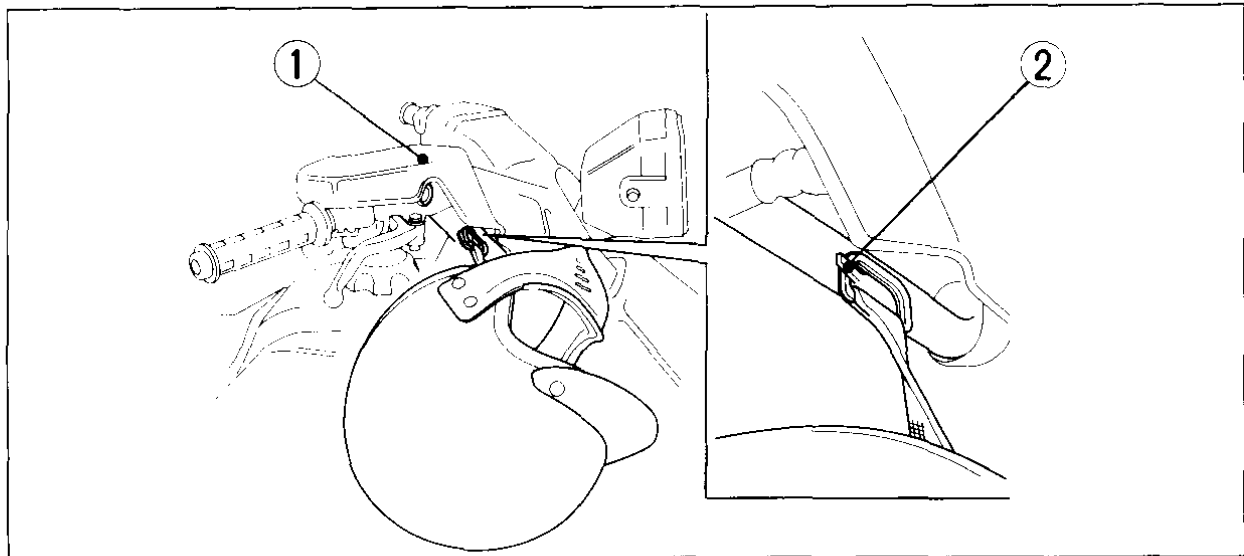

Fig. 2-20
The helmet holder (Fig. 2-20) is a bracket near the right side of the handlebar cover (1). To use the holder, hang the D-ring on your helmet strap over the bracket. Use the helmet holder only when the FOURTRAX is parked.